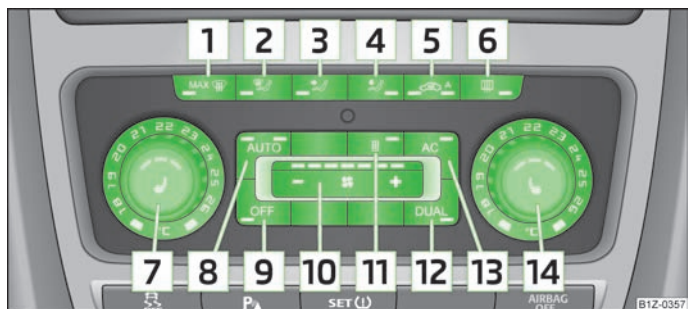

Fig. 90 Climatronic: Control elements
- › (AC 13) » Fig. 90 switched on.
- › Press the button (AUTO 8) » Fig. 90.
- Press the button **AUTO** **8** » Fig. 90. The indicator light in the top right or left corner lights up, depending on which mode was last selected.
If the warning light in the top right corner of the button **AUTO** **8** » Fig. 90 lights up, the Climatronic operates in "HIGH" mode. The "HIGH" mode is the standard setting of the Climatronic.
When pressing again the button **AUTO** **8** » Fig. 90, the Climatronic changes into the "LOW" mode and the warning light in the top left corner lights up. The Climatronic uses only in this mode the lower blower speed. However taking into account the noise level, this is more comfortable, yet be aware that the effectiveness of the air conditioning system is reduced particularly if the vehicle is fully occupied.
By pressing the button **AUTO** **8** » Fig. 90 again, it is changed to "HIGH" mode.
- Press the button **AC** **13** » Fig. 90. The warning light in the button lights up.
- The temperature for both sides can be set with the control dial **7** » Fig. 90 after switching on the ignition.
- If you wish to set the temperature for the right side, turn the control dial **14** » Fig. 90. The warning light in the button **DUAL** **12** » Fig. 90 lights up, this indicates that differing temperatures for the left and right side can be set.
If the indicator light in the button **DUAL** **12** » Fig. 90 is illuminated, the temperature for both sides cannot be set with the control dial **7** » Fig. 90. You can reactivate this function by pressing the button **DUAL** **12**. The warning light in the button goes out.
- Repeatedly press the button **5** » Fig. 90 until the indicator light on the left side of the button is illuminated.
➤ Repeatedly press the button  **5** » Fig. 90 until the indicator light on the right side of the button is illuminated.
➤ If the air quality sensor does not automatically switch on the air distribution control in the event of an unpleasant odour, you can switch it on yourself by pressing the button  **5** » Fig. 90. The warning light lights up in the button on the left side.
➤ Press the button  **8** » Fig. 90 or repeatedly press the button  **5** » Fig. 90 until the indicator lights in the button go out.
- If the windshield mists up, press the button  **1** » Fig. 90. Press the button  **8** » Fig. 90 when the windshield is demisted.
➤ Repeatedly press the button  **10** » Fig. 90 on the left side (reduce blower speed) or on the right side (increase blower speed).
The set blower speed is displayed above the button  **10** » Fig. 90 when the respective number of warning lights come on.
➤ Press the button  **1** » Fig. 90.
➤ Once again press the button  **1** » Fig. 90 or the button .